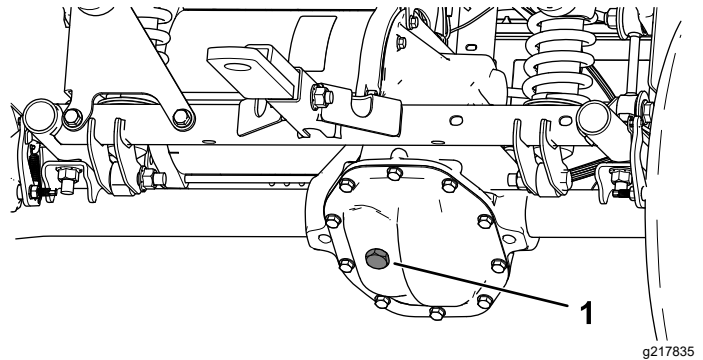

Figure 52
4. Remove the fill plug on the transaxle (Figure 52).
5. If the fluid level is low, remove the fill plug and add the specified fluid until it runs out of the hole (Figure 52).
4. Remove the fill plug on the transaxle and fill the transaxle with the specified fluid until it runs out of the fill hole (Figure 52).